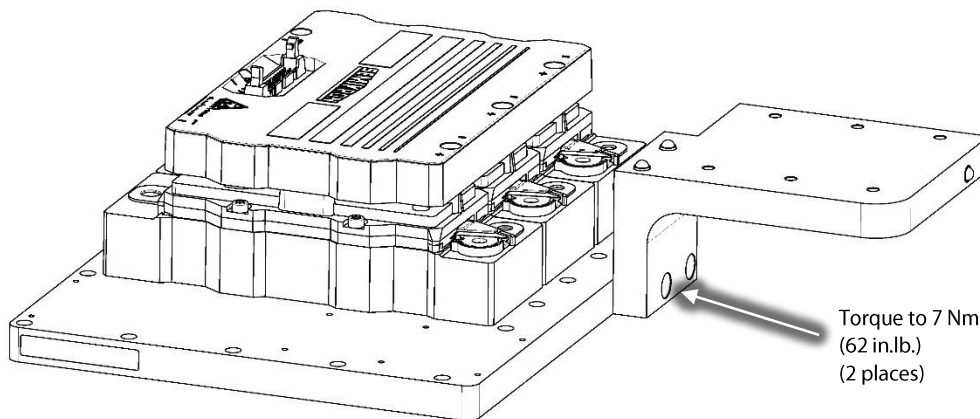

Figure 22 – SCR Cooling Manifold Installation
2. Reinstall the SCR cooling manifold to the Inverter cooling manifold reusing the two (2) fasteners and torque to specification. Refer to Figure 22 (SCR Cooling Manifold Installation).